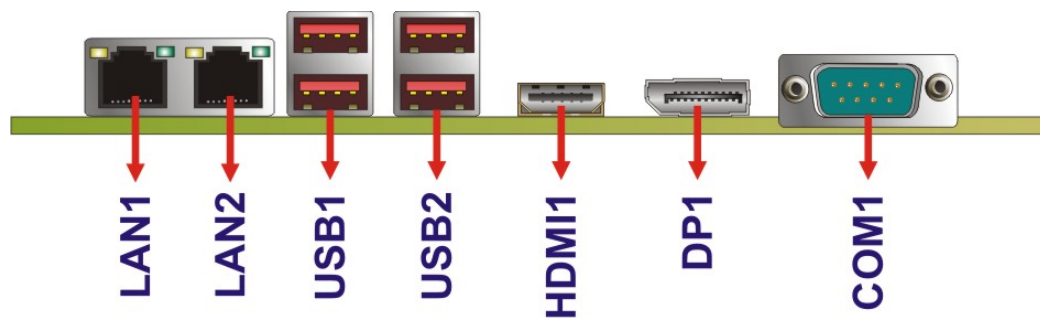

Figure 3-27: External Peripheral Interface Connector
Figure 3-27 shows the NANO-ULT5 external peripheral interface connector (EPIC) panel. The EPIC panel consists of the following:
- CN Location:** See **Figure 3-27**
- CN Location:** See Figure 3-27